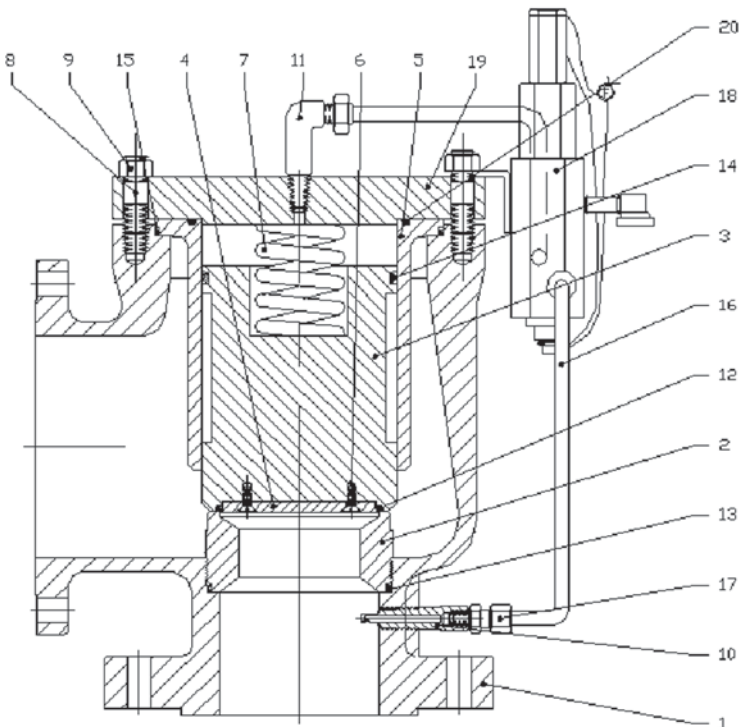

Figure 5.2 Main Valve (3" and larger Inlet)
For 3", 4", 6" and 8" inlet size (Figure 5.2):
1. Refer to Figure 5.2 for construction details.